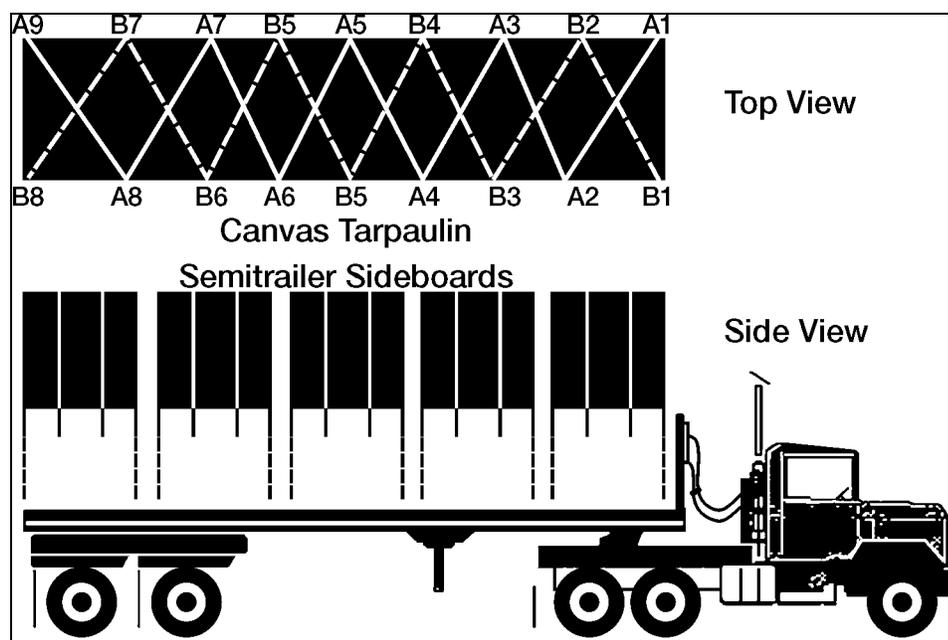

Figure 3-56. Load Lashing
c. Lash the load and canvas to the truck (see Figure 3-56).